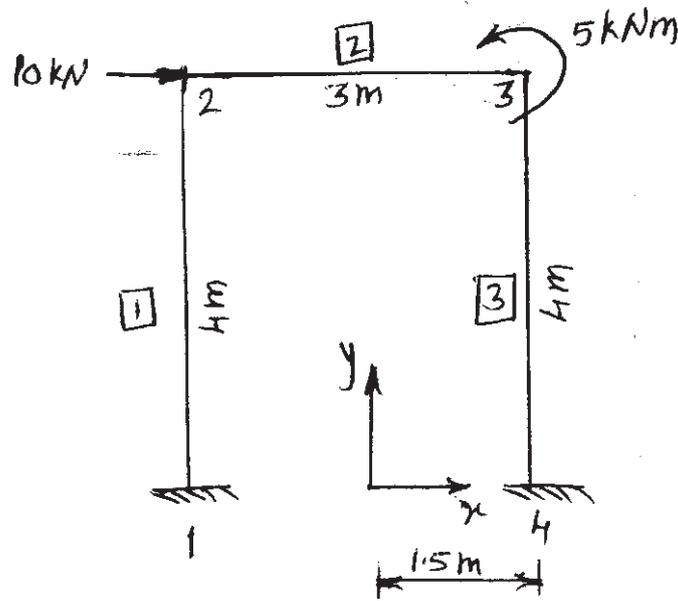

Fig. 2
- Q3)** Assemble element stiffness matrices for the rigid frame shown in the fig. 2.